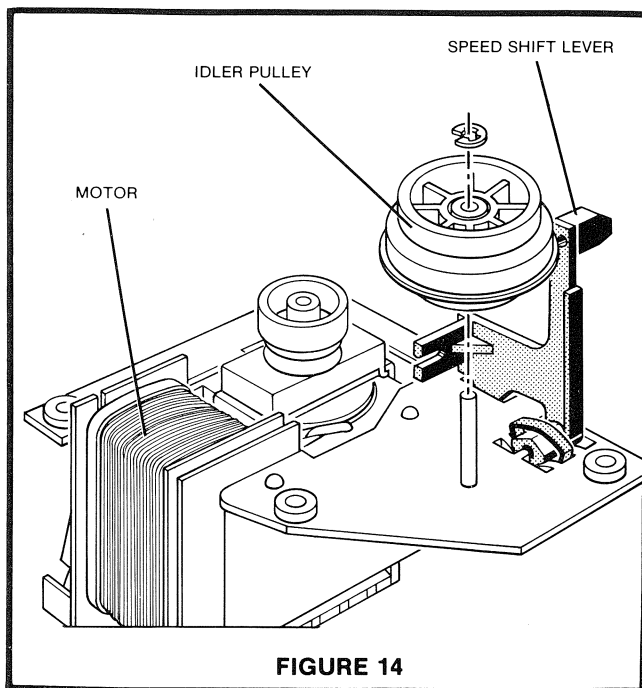

FIGURE 14
5. Remove and replace MOTOR, IDLER PULLEY, and SPEED SHIFT LEVER as required, Figure 14.